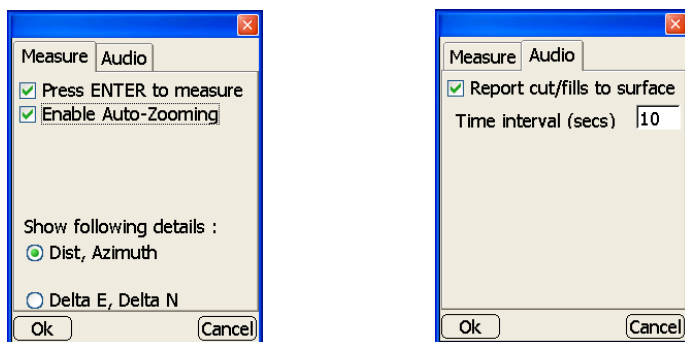

Figure 7-2. Measure and Audio Option Tabs
2. On the *stake-out options* dialog box, select the desired options for stakeout measurements and audio, then press **Ok** (Figure 7-2).